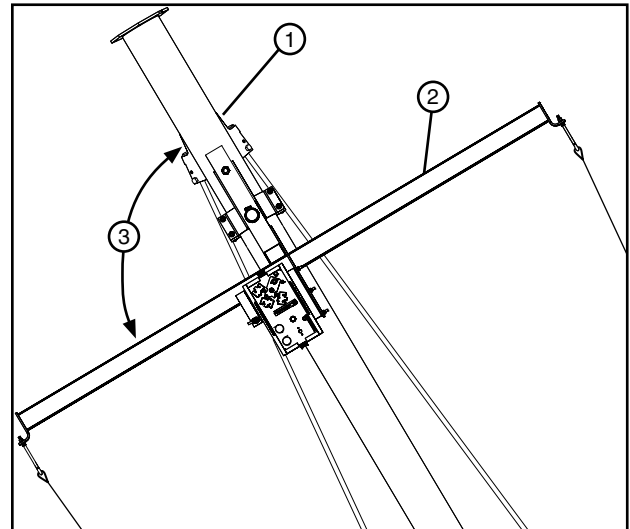

Figure 101-1 1. Span Pipe
6. Adjust the fixed end cable mount hook bolts until both the proper deflection of safety cable is achieved and the "T" bar is perpendicular (90 degrees) to the span pipe. See Figure 101-1.